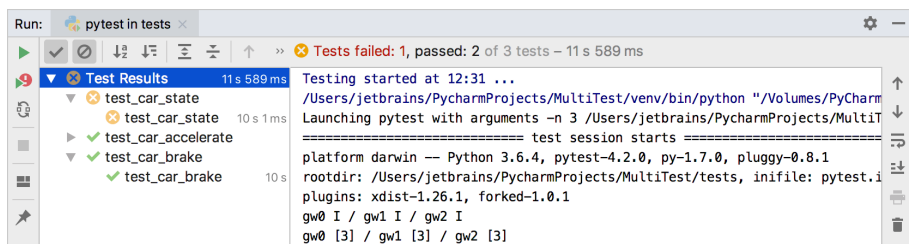

Fig. 39.
- And, finally, the most important thing - you can explore test results in the test runner tab of the Run tool window as in Fig. 39.